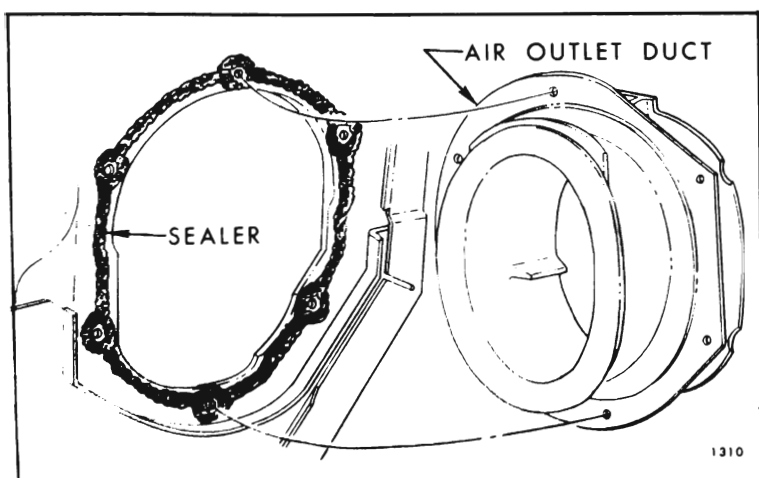

Fig. 3-3—Shroud Side Air Outlet Duct Sealing
3. To install, apply a bead of medium-bodied sealer to shroud panel completely around inside perimeter of opening and reverse removal procedure (Fig. 3-3).